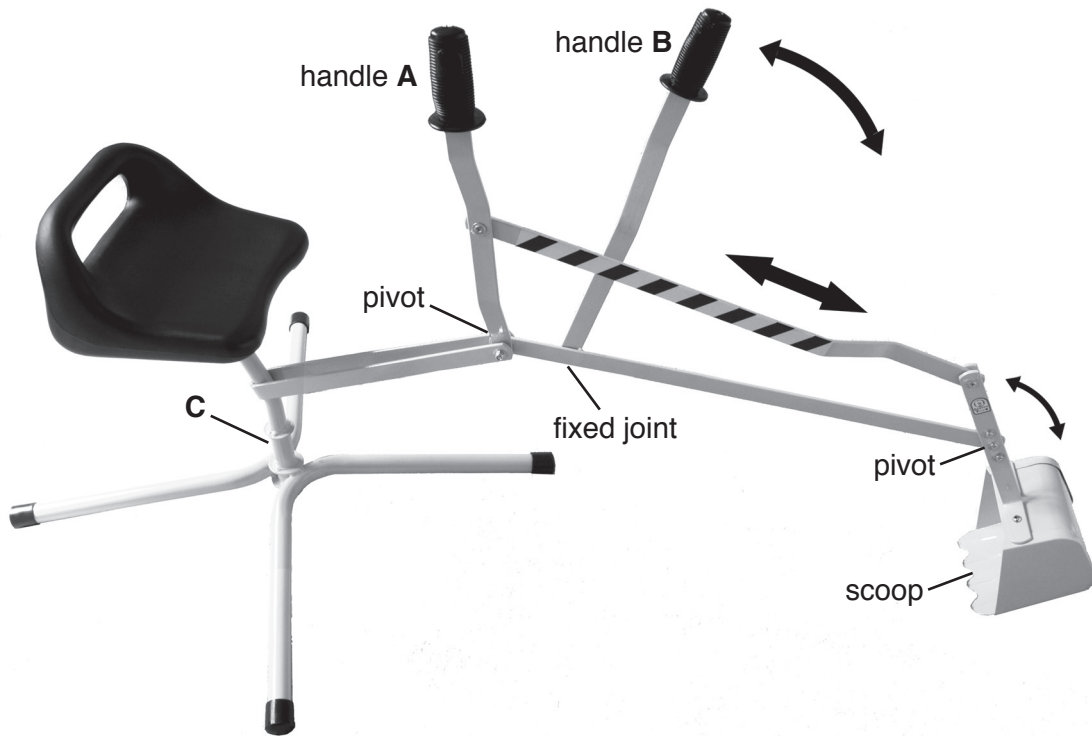

Fig. 11
- 10 Fig. 11 shows a ‘sit-on’ toy digger for a child. The digger is operated by two levers, **A** and **B**. Lever **A** controls the angle of the scoop and lever **B** will raise and lower the scoop.